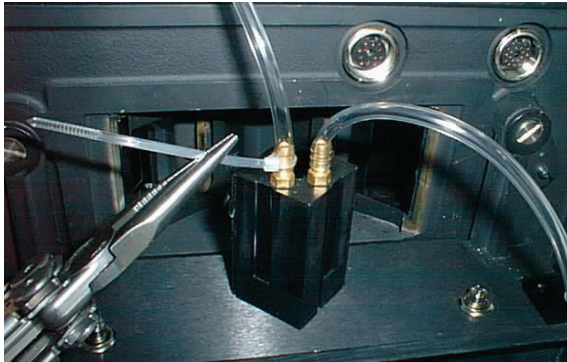

Figure 25 Attaching the tubing to the cellholder
3. Attach the tubing to the cellholder nozzles and secure with cable ties or clamps, as shown in Figure 25.